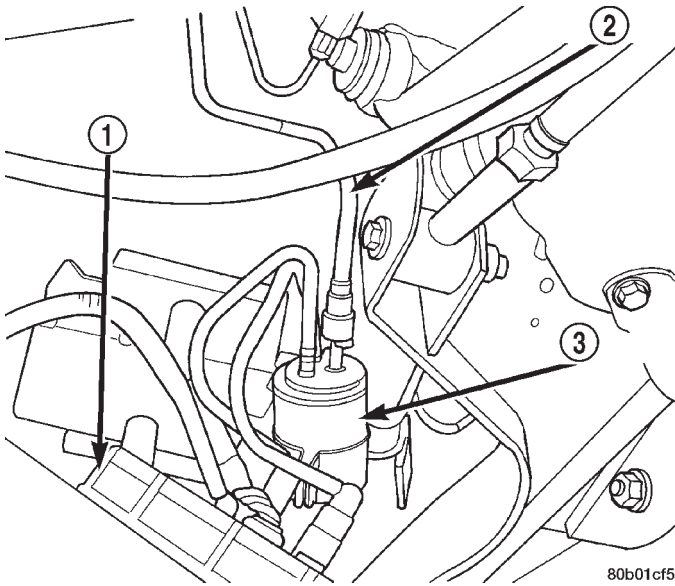
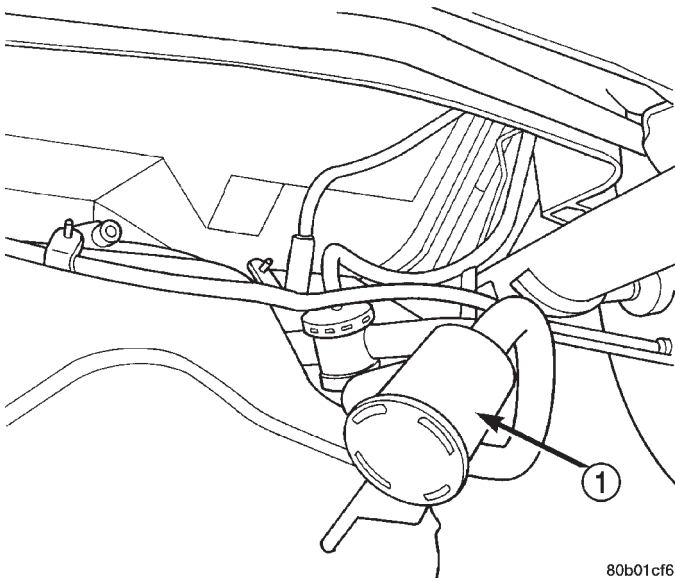

Fig. 22 Fuel Line
Fig. 23 Evap Components
(6) Disconnect fuel line (Fig. 22).
(7) Position transmission jack under fuel tank assembly.
(8) Remove fuel tank straps bolts. Passenger side first.
(9) Lower fuel tank and remove the purge line and vent line (Fig. 23).
(10) Remove hoses from EVAP canister.
(11) Disconnect electrical connector for Leak Detection Pump (LDP).